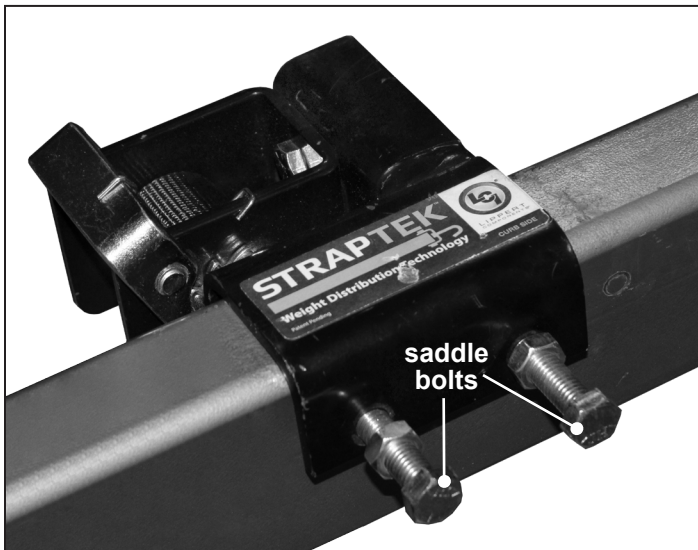

Fig. 1
1. Place Straptek™ tensioners on the A-frame. Do not tighten saddle bolts at this time (Fig. 1).
5. Finger tighten the saddle bolts (Fig. 1).